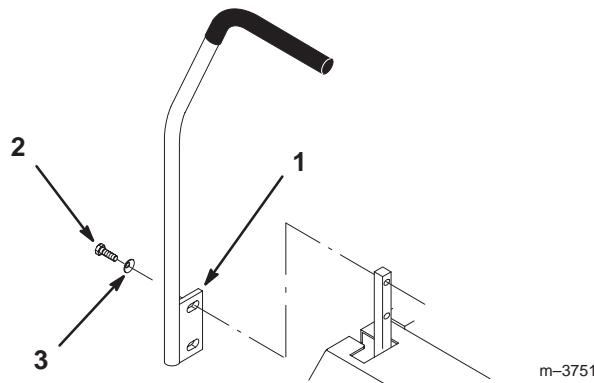

Figure 3
1. Remove the (4) 3/8-16 x 1" (26 mm) bolts and (4) 3/8" spring washers which attach the motion control levers to the control arm shafts for shipping (Fig. 3).
2. Place the levers (with the mounting plate toward the rear) on the outside of the control arm shaft and secure with (4) 3/8-16 x 1" (26 mm) bolts and (4) 3/8" spring washers (Fig. 3).
4. Align the front/rear position of the levers, with each other, in the neutral position. Loosen hardware and adjustment by sliding/tilting the lever(s) forward or backward until properly aligned(Fig. 3).